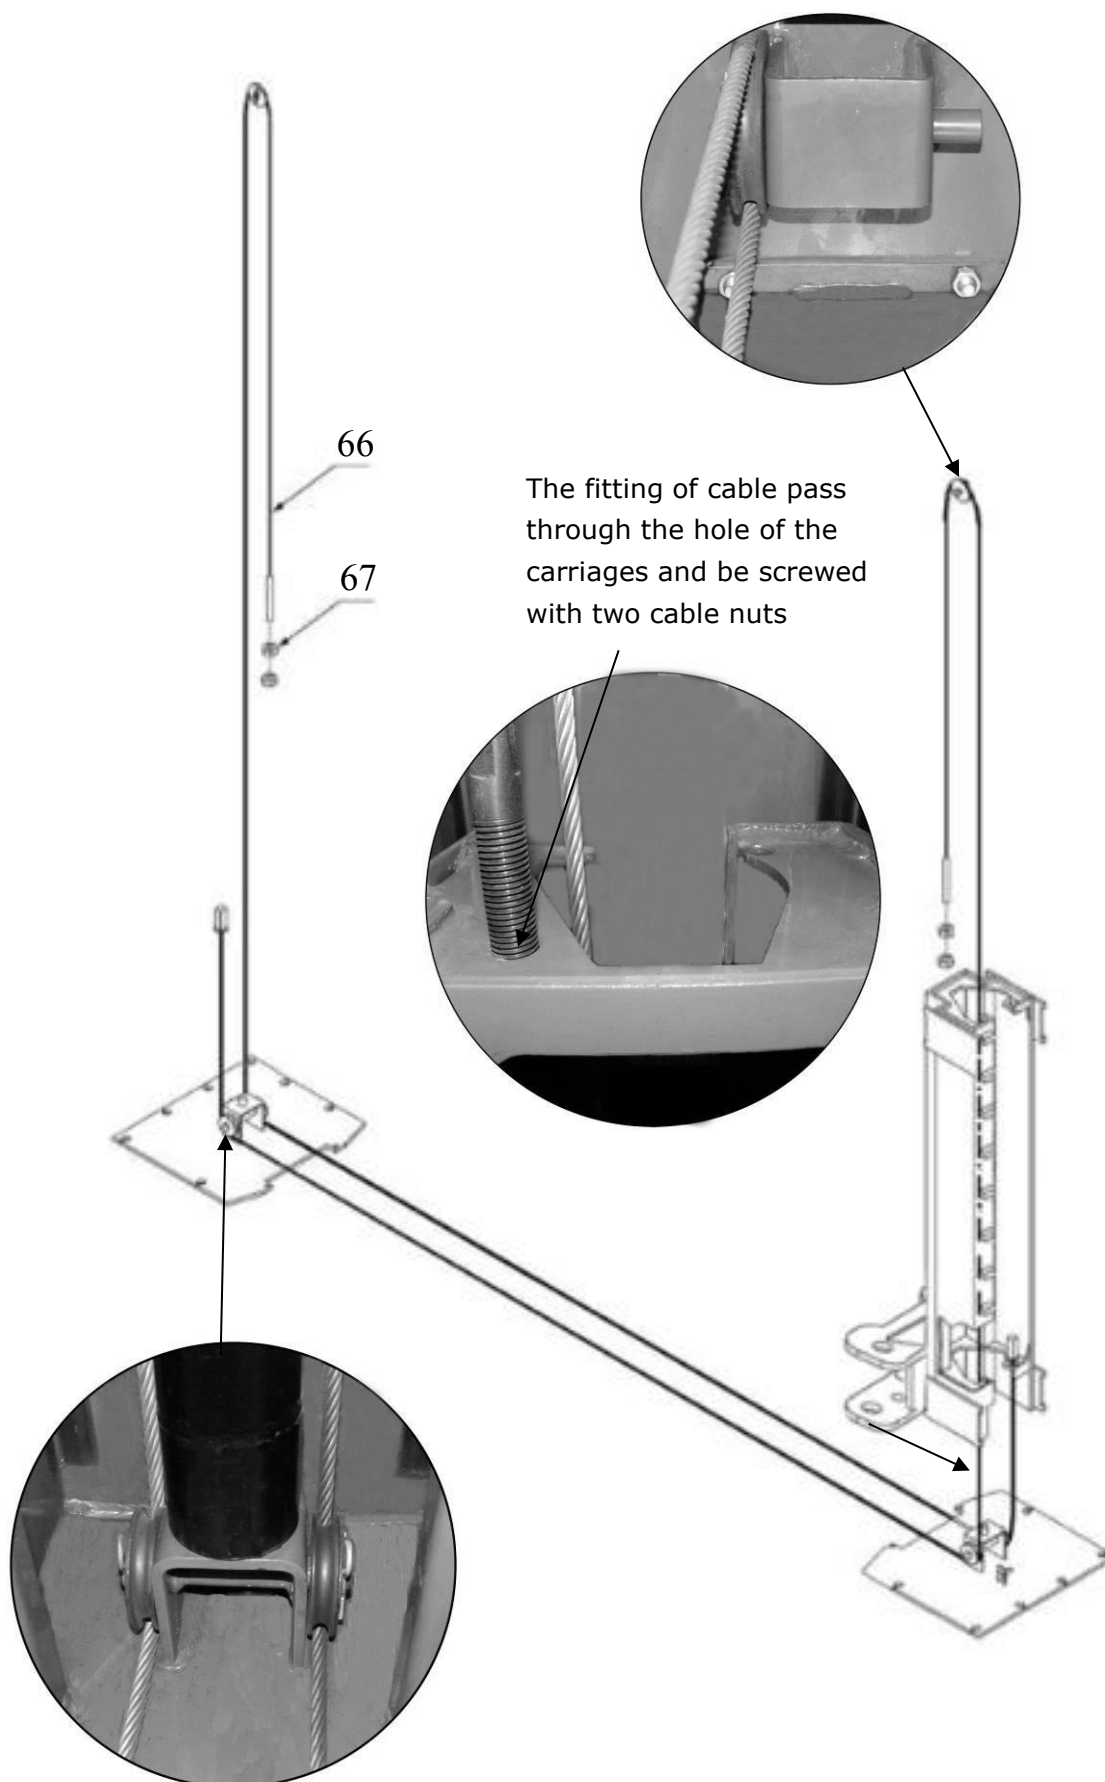

Fig.20
2. Assemble cables (See Fig. 20)